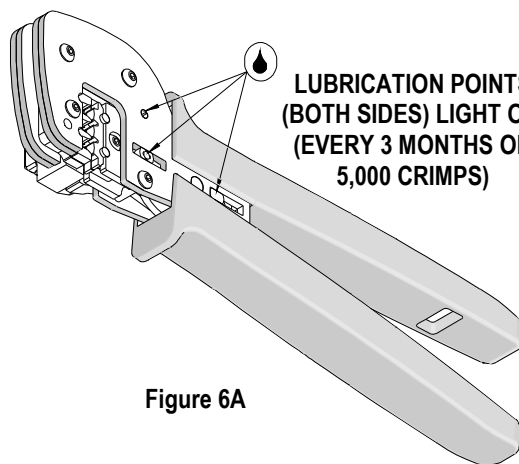

Figure 6A
3. Make certain all pins; pivot points and bearing surfaces in the tool head are protected with a thin coat of high quality machine oil. Do not oil excessively. This tool was engineered for durability, but like any fine piece of equipment, it needs cleaning and lubrication for a maximum service life of trouble-free crimping. The use of a light oil, such as 30 weight automotive oil, every 5,000 crimps or monthly, will significantly enhance the tool life and ensure a stable calibration. See Figure 6A or 6B for lubrication points.